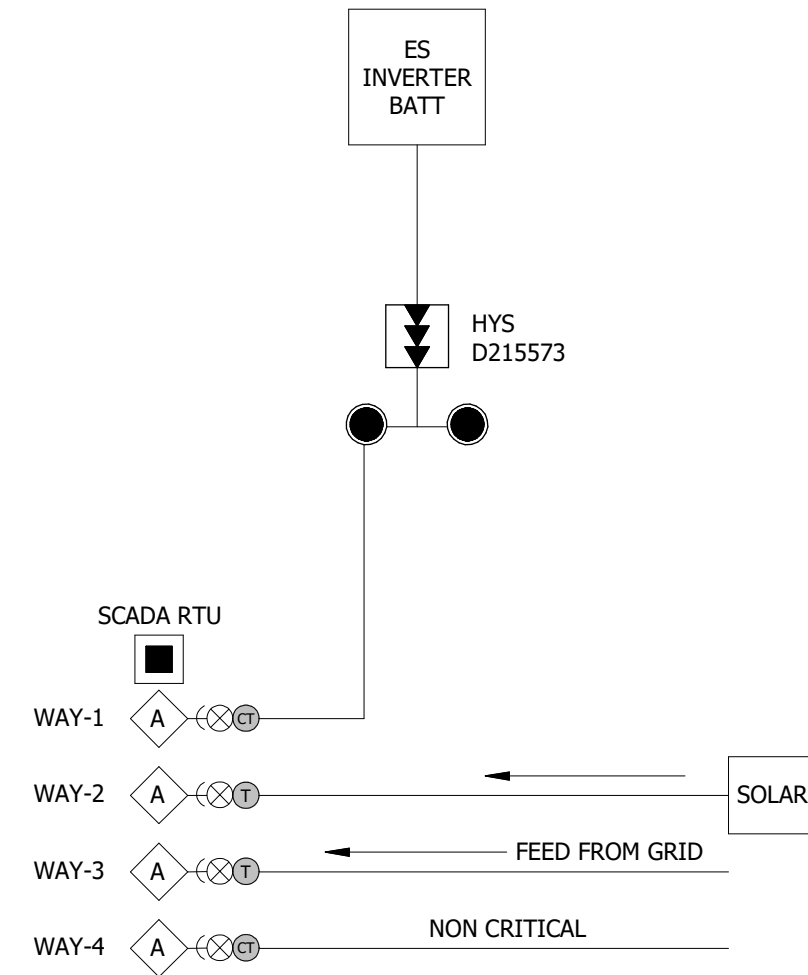

FIGURE 2
- (D) CONFIGURATION 02 (TRADITIONAL SCADA TRAYER), SEE FIGURE 2: